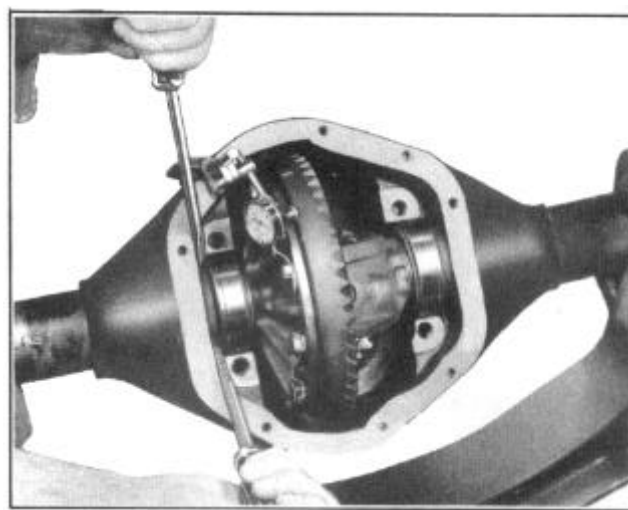

FIGURE 46
8. Mount dial indicator with control button against back face of drive gear, Figure 46. With screwdrivers inserted between bearing cup and housing, force differential assembly as far as possible to one side of housing. Set dial indicator at zero, shift differential assembly as far as possible in the opposite direction and note indicator reading. The shim thickness to be placed between the differential case and the bearing cones will be determined later.